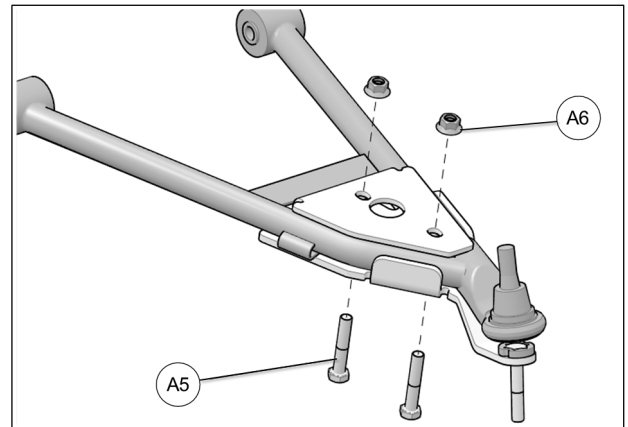

Fig. 17
6. Insert the M10x55 mm bolts (A5) through the bottom and secure the two parts together with the nuts (A6) provided. Tighten assembly to 50 N•m [37 lb•ft] of torque. See Fig. 17